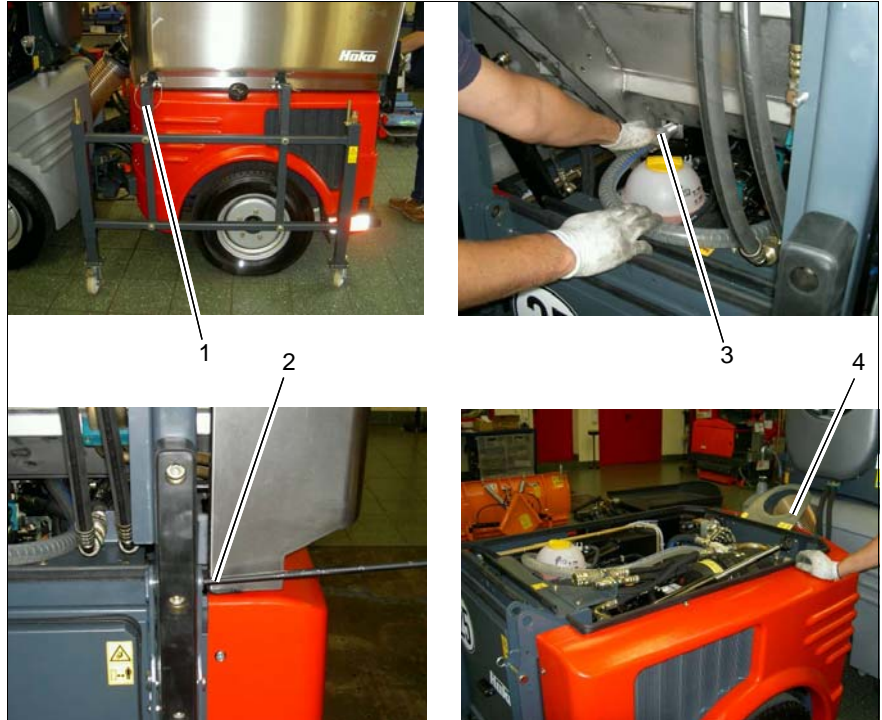

Fig5
- Plug support stands (Fig. 5/1) into openings on both sides and secure with (enclosed) bolts and wire pins at the links (Fig. 5/1)
- Dismount bolts at the rear (Fig. 5/2) and use tool if required
- Loosen GEKA coupling (Fig. 5/3) of the soiled water recirculation systems.
- Unscrew suction hose holder (Fig. 5/4)